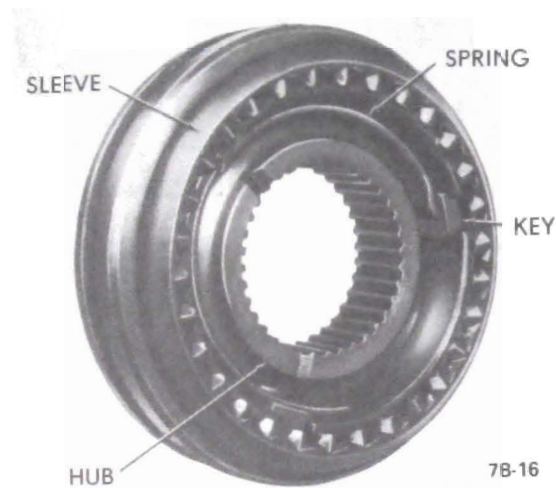

Figure 7B-16 - Synchronizer Assembly
b. Remove sliding sleeve from synchronizer hub. Remove keys and springs from the hub. See Figure 7B-16.
c. Place the three (3) keys and two springs in position (one on each side of hub) so all three (3) keys are engaged by both springs. See Figure 7B-16.